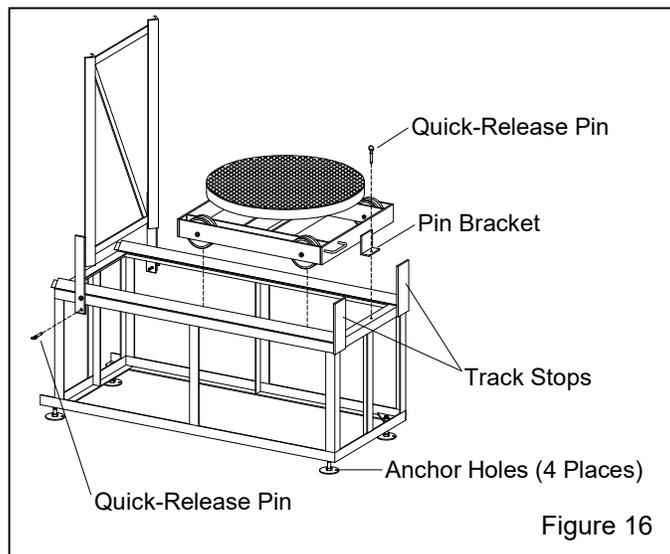

Figure 16
3.5.4.4 The quick-release pin holds the hinge track when in the raised position, as shown in Figure 16.
3.5.5 Turntable work cart and hinge track operations – Figure 16